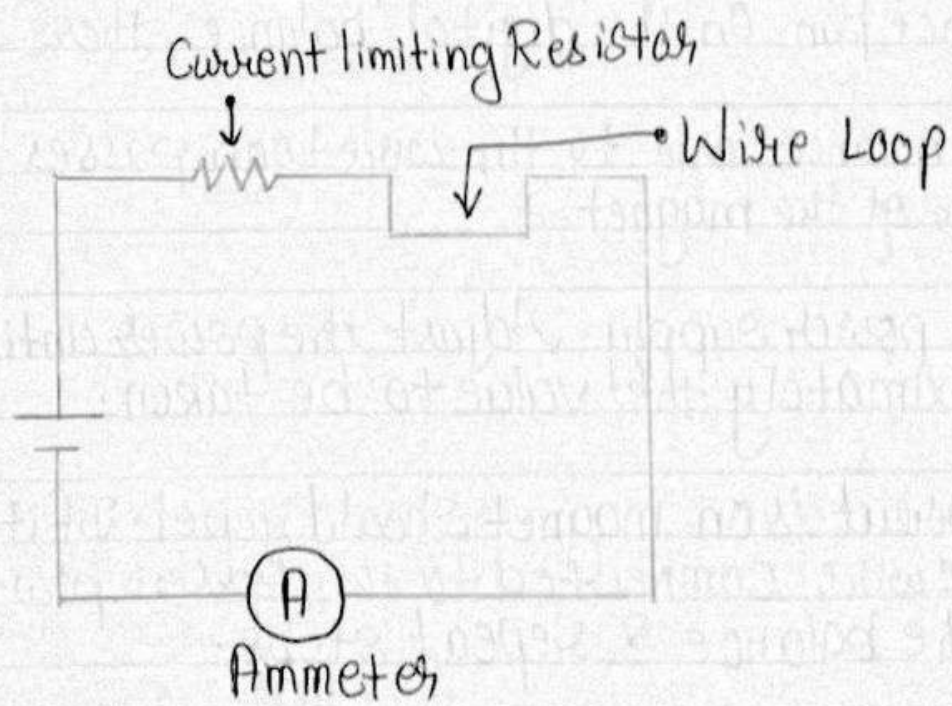

Fig 2: Circuit for F vs I
- ① Build the circuit as shown in figure 2 using current loop
- ② Locate the magnet for the wire loops & center the magnet on the balance pan. On the digital balance, there is a "zero" button.
- ③ Lower the balance arm so the wire loop passes through the pole region of the magnet.
- ④ Plug in the power supply. Adjust the power until the current is approximately the value to be taken.
- ⑤ If the current is on magnet should repel. If it gets attracted reverse the wire connected to the power supply, turn off the balance & repeat steps.
- ⑥ Measure m & J .
- ⑦ Repeat until current increments from 0A to 2A.
- ⑧ Collect the data & unplug the power supply.
- ⑨ Calculate force for each current value.